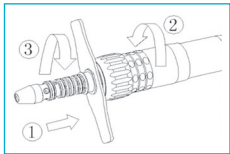

Fig. 6-1
- Screw the LED coupling onto the turbine hose (Fig.6-1①).